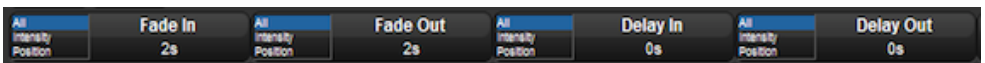

Figure 12.4. The Wheels Toolbar showing Timing
3. The Wheels Toolbar will show the available timing types (Fade In, Fade Out, Delay In and Delay Out) together with their current settings; see *Figure 12.4, “The Wheels Toolbar showing Timing”*.